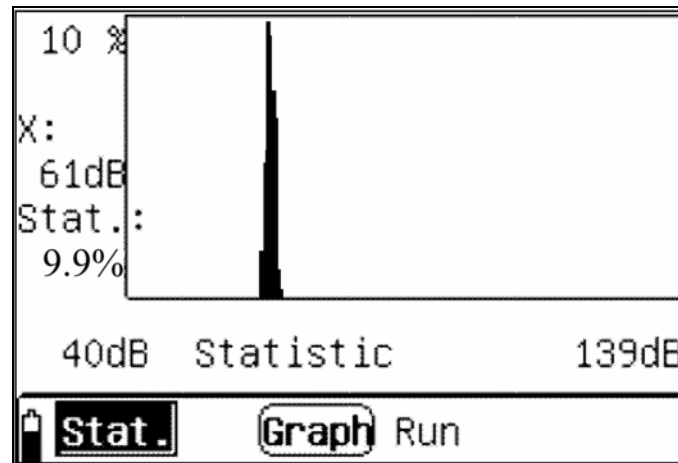

Fig. 13: Graphic screen of statistic analysis
8. The screen shows the diagram of the statistic distribution corresponding to the recording in progress, with update every second. The left part of the graphic displays the statistic percentage of the sound pressure level corresponding to the dB value measured by the instrument, which can be changed by means of the “←” and “→” arrow keys, within the measuring range reported on the x-axis. In the example in Fig. 13, the value of the sound pressure level is 61dB in 9.9% of the values measured within the 40 – 139dB range.